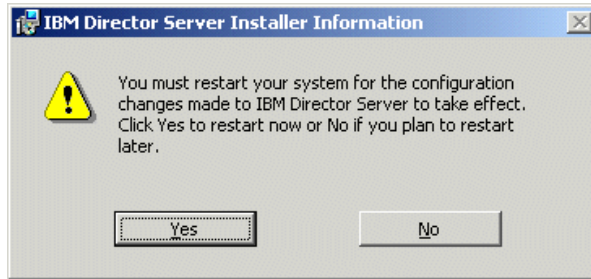

Figure 4-13 Reboot window
15. Click **Finish**. You will see a window similar to Figure 4-13.